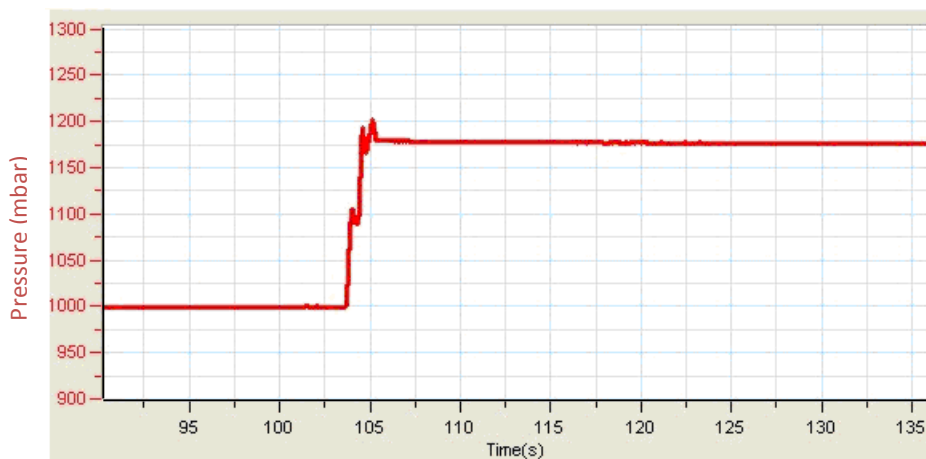

Figure 3
4. Press the stoppers. The pressure should rise a little and then remain constant (see Figure 3).